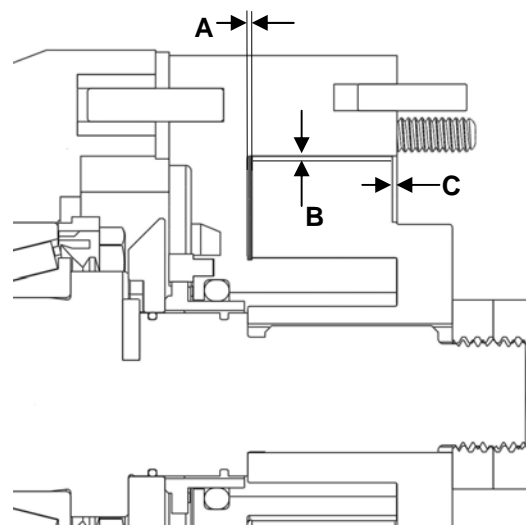

**Figure 52: Pressing Shafts into Gear Case**
4) Set the gear case on a press with the fluid end side facing up. Place the required thickness of shim stock so it sits on the shoulder of the front shaft bore of gear case. Apply lubricant to the outside of the bearings. Place shaft assembly (one shaft at a time) in the gear case with the spline end facing up. Making sure that the drive and the short shafts are in the correct bores, press the shafts into gear case until bearings are fully seated (Figure 52). See Table 4 on page 25 for the required force.